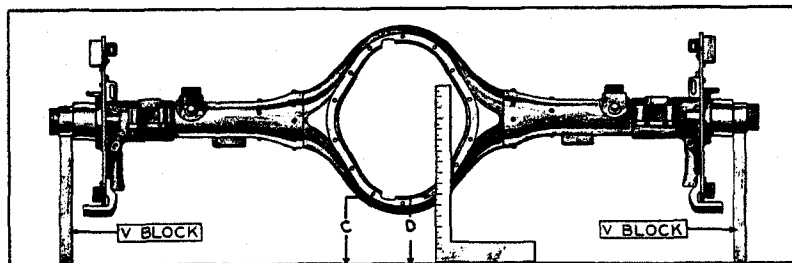

Fig. 115. Testing Rear Axle Housing—2nd Position
Turn the housing so that the flat sides are vertical as shown in Fig. 115. With a square, measure to the center of the hole (C) then again at (D). Revolve the axle  $180^\circ$  and take the same measurements. All four measurements should be within  $\frac{1}{16}$  inch of each other.